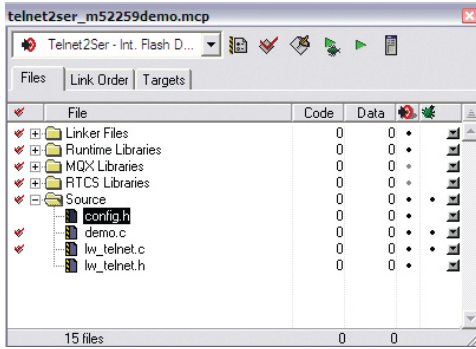

Figure 3: MQX Source Tree
5. Open the **config.h** file in the CodeWarrior window as shown in Figure 3. Double click the file item located in the “Source” group in the CodeWarrior project tree.